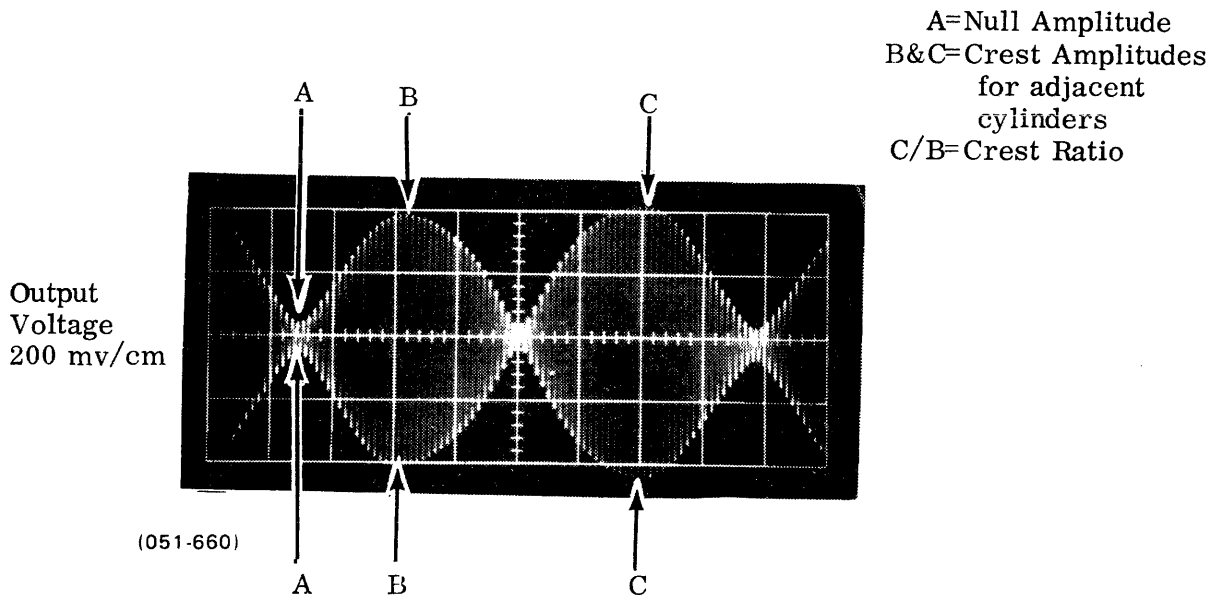

Figure 4-4. Transducer Output
The following list and Figure 4-4 define specifications for acceptable cylinder transducer alignment. The first three items relate to error source (1) above, the last two relate to error source (2) above.